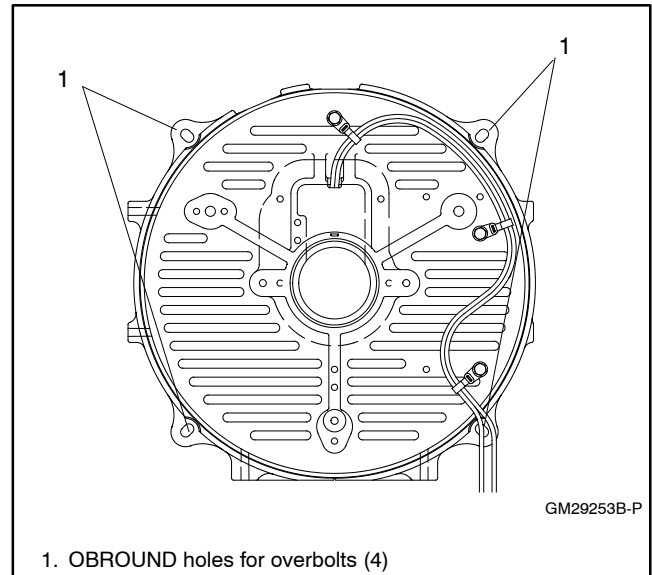

Figure 7-15 End Bracket
- e. Thread the four overbolts with locating washers through the end bracket and into the generator adapter. Position the locating tab of each washer to the outer edge of the oblong (OBROUND) hole on the end bracket. See Figure 7-15. The overbolts should be parallel to the outside of the alternator. If the overbolts are slanted, rotate the locating washer 1/2 turn. Do not final tighten the overbolts.